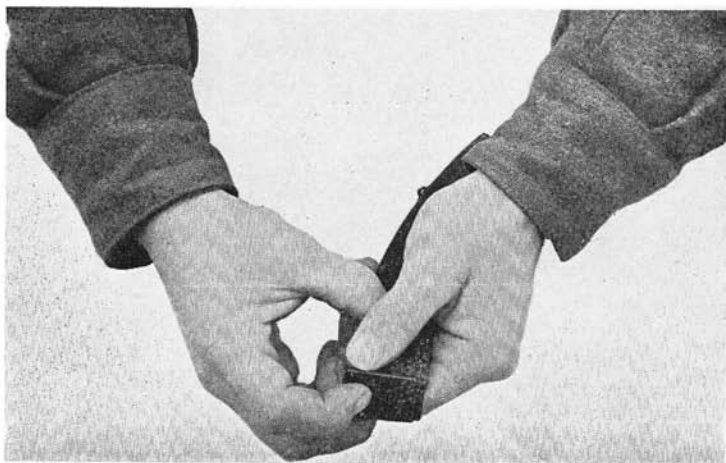

Fig 5.—Stripping the magazine
17. **Stripping the magazine** (see Fig 5).—To strip the magazine, press the stud on the bottom plate and slide the plate off in the direction of the arrow, with your hand over it to stop the spring flying out. Hold the platform stem, rock it to clear the dents in the bottom of the magazine case, and take out the platform and spring.